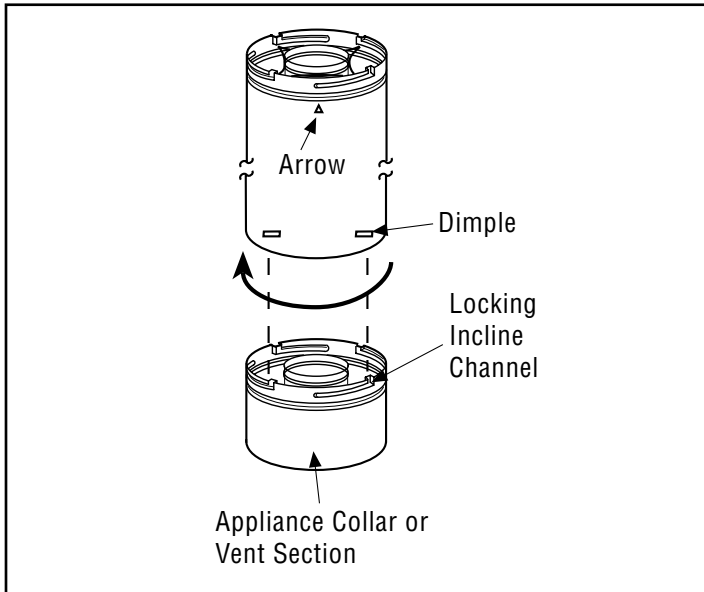
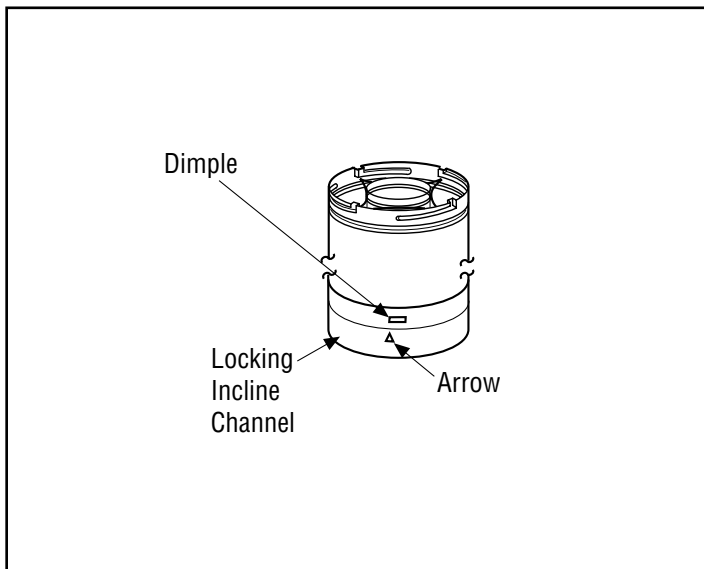

Figure 11 - Connecting vent components
Figure 12 - Connected vent components
Direct-vent system components are unitized concentric pipe components featuring positive twist lock connections (**Figure 11** and **Figure 12**). All of the fireplaces covered in this document are fitted with collars having locking inclined channels. The dimpled end of the vent components fit over the fireplace/vent collar to create the positive twist lock connection.
1. Align the dimpled end over the collar, adjusting the radial alignment until the four (4) locking dimples are aligned with the inlet of the four (4) inclined channels on the collar (**Figure 11**).
2. If desired, a #6 x 1/2" screw can be used at the joint, but is not required as the pipe will securely lock when twisted (**Figure 12**).